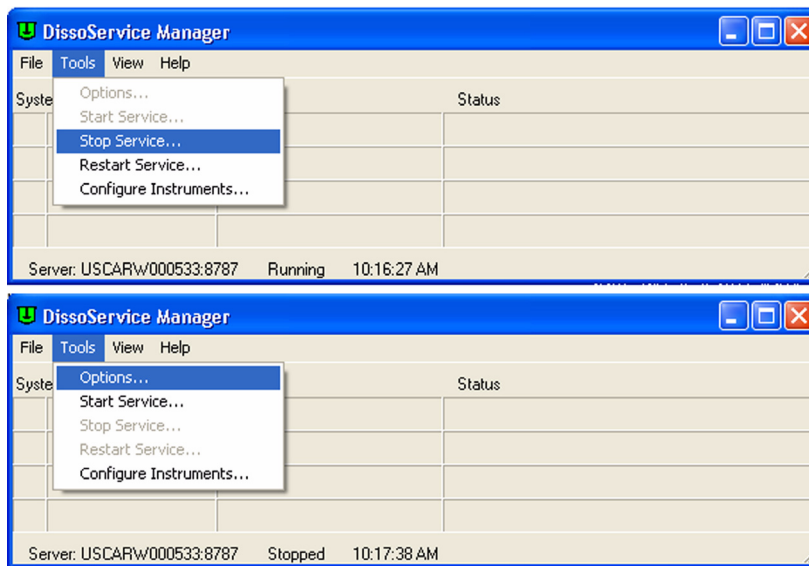

Figure 5 DissoService tools menu
- 2 On the toolbar, click **Tools** and select **Stop Service**. The Options item on the Tools menu enables after the service stops (see Figure 5, “DissoService tools menu,” on page 34).